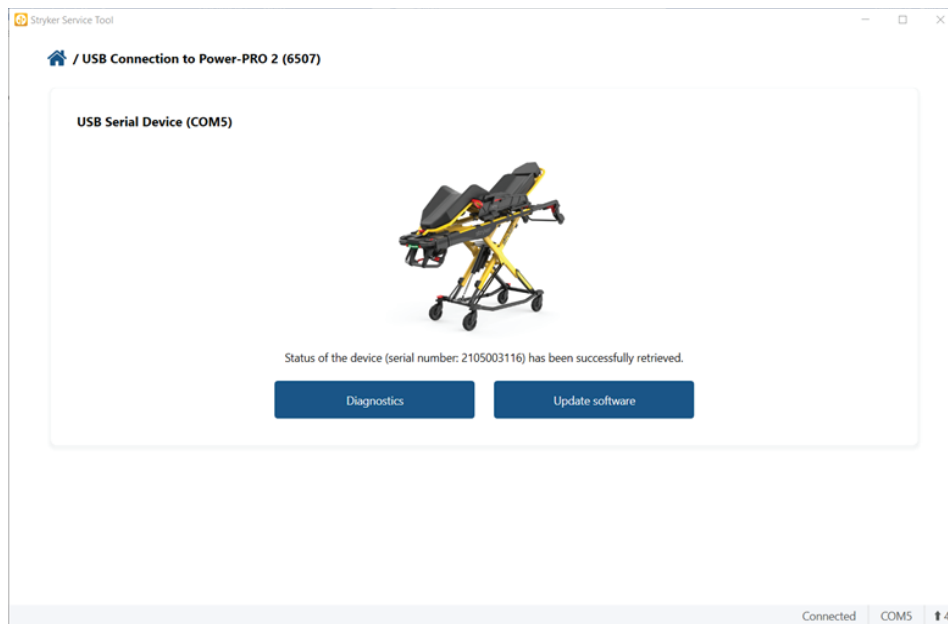

Figure 5 – Diagnostics
5. After the Diagnostics button highlights blue, select **Diagnostics** to access Equipment Details (Figure 5).